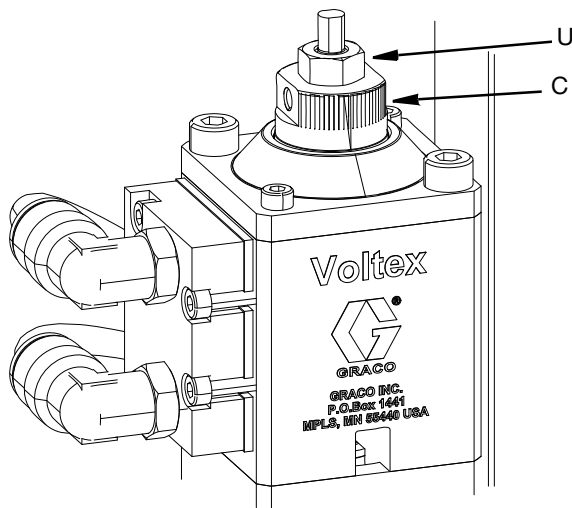

FIG. 21
1. Loosen lock nut (U) on top of the valve.
2. Turn the adjustment nut (C) counterclockwise to reduce the distance the valve opens.
3. Slowly open the adjustment nut (C) and then cycle the air pressure until the desired flow is reached.
4. Tighten the lock nut (U) to hold the adjustment nut (C) in place. See FIG. 21.